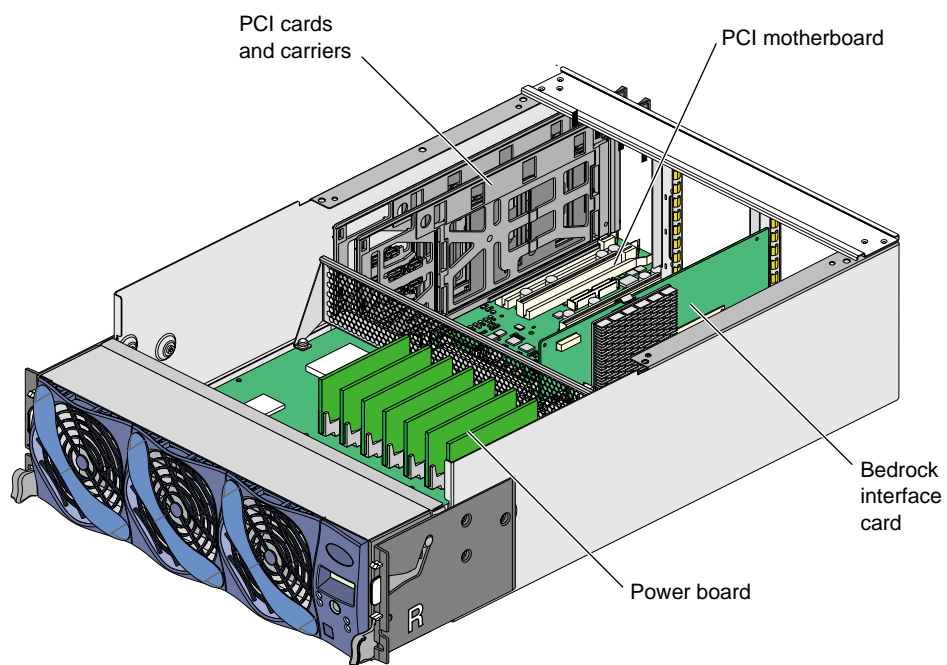

Figure 3-9 Internal View of PCI Expansion Module
The PCI expansion module contains the following internal components (see Figure 3-9):
- L1 controller logic (not shown in Figure 3-9)
The power board is installed horizontally in the front of the module and it plugs into the PCI motherboard (see Figure 3-9 on page 45).